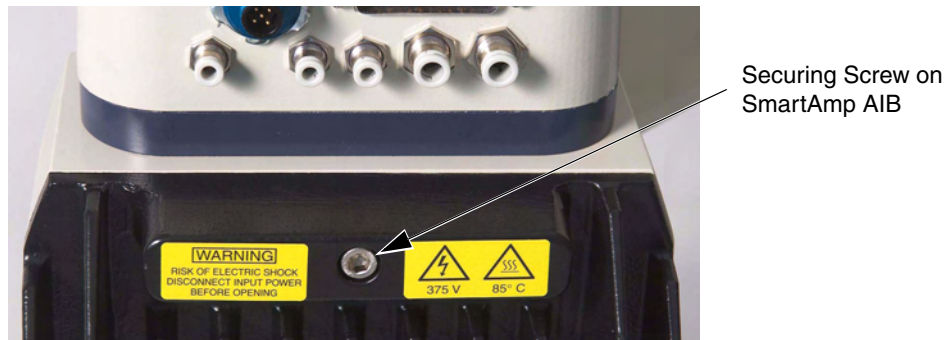

Figure 7-2. Securing Screw on SmartAmp AIB Chassis
9. Using a 5 mm Allen key, carefully unscrew the chassis securing screw. See Figure 7-2. Note that the screw does not need to be completely removed in order to remove the chassis, as this screw is captured on the chassis heat sink.
9. Once the chassis is in place, use a 5 mm Allen key to tighten the chassis securing screw. See Figure 7-2 on page 99 for details.
7. Using a 5mm Allen key, carefully unscrew the AIB chassis securing screw. See Figure 7-2 on page 99. Note that the screw does not need to be completely removed in order to remove the chassis, as this screw is captured on the chassis heat sink.